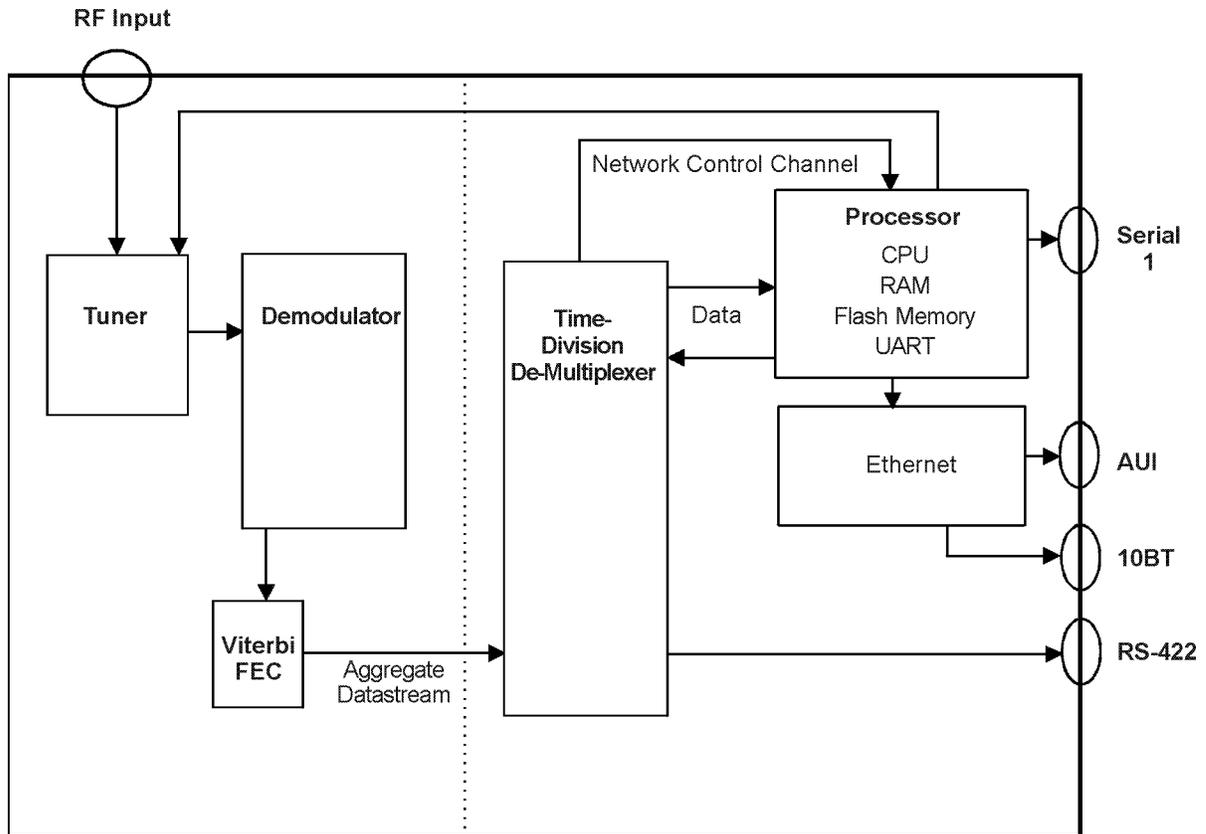

Figure 5-6. Ethernet Model, Functional Depiction
- The Ethernet daughtercard (Figure 5-6) provides a synchronous (high-speed) output port, an asynchronous output port, and a 10BaseT output to a local area network.